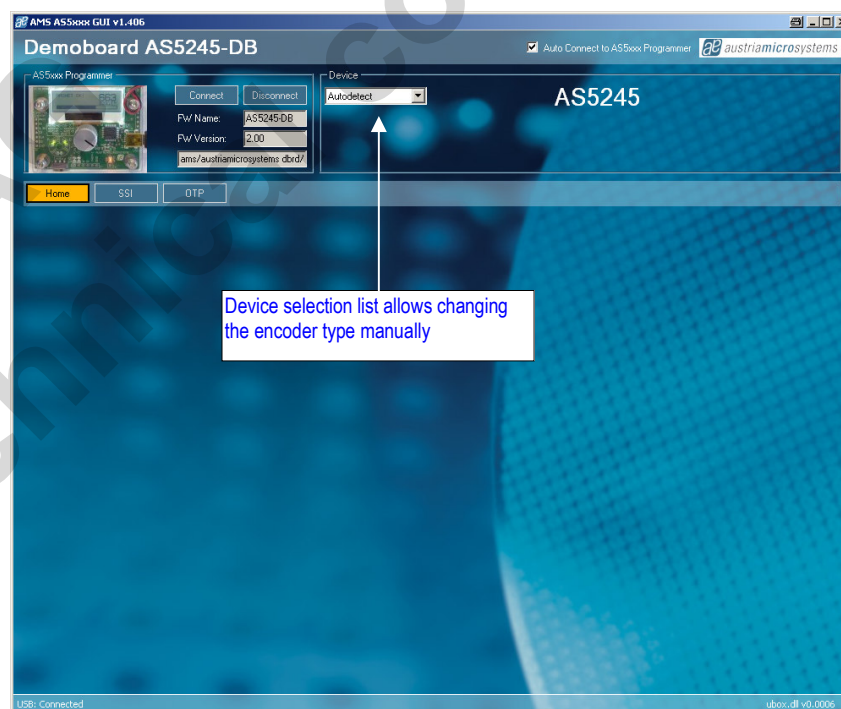

Figure 3: AS5000 GUI has detected the AS5245 Demoboard
Figure 3 shows the main window of the GUI. On the top left corner, board information's as firmware (FW) version and demoboard name declaration can be found.